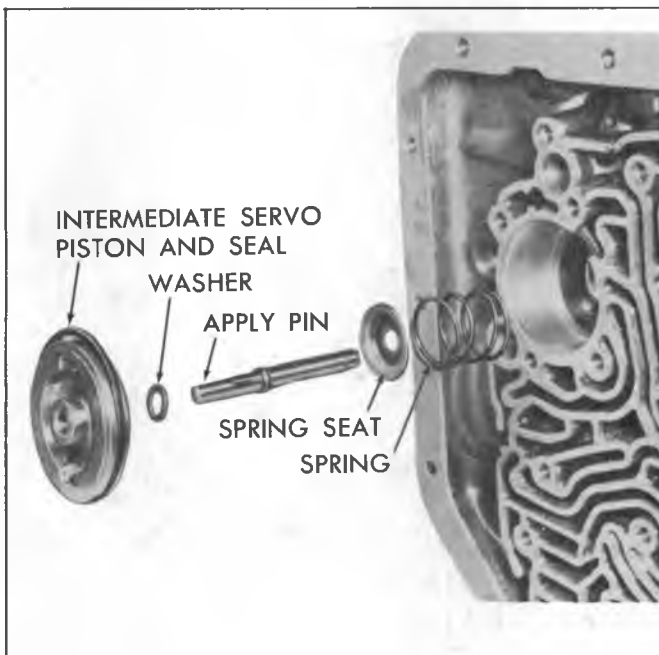

Fig. 26M--Intermediate Servo Piston and Related Parts
15. Remove intermediate servo piston and seal ring. Remove washer, spring seat and apply pin (fig. 26M).